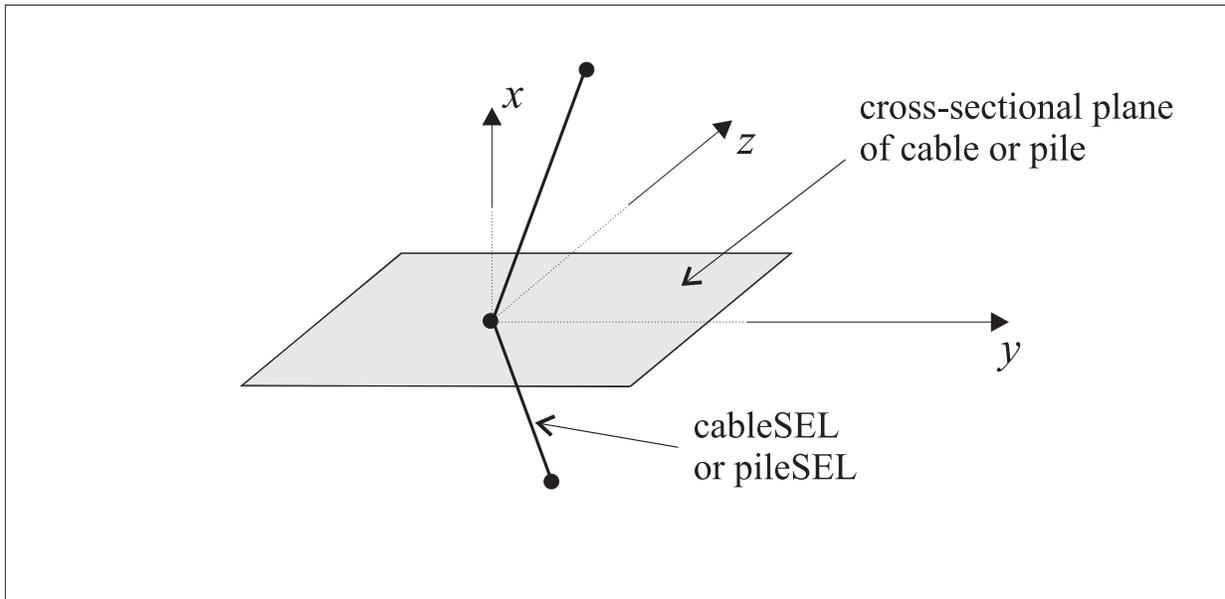
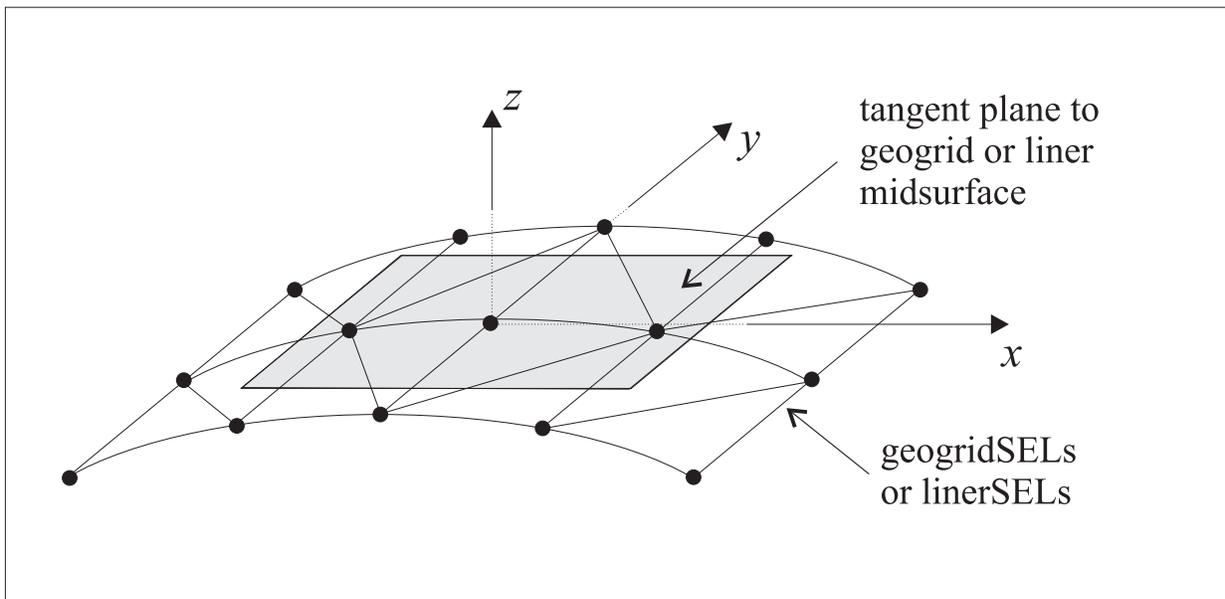

Figure 1.25 Orientation of the node-local system for a node used by cableSELS or pileSELS
Figure 1.26 Orientation of the node-local system for a node used by geogridSELS or linerSELS
The orientation of the local system is set automatically at the start of a set of cycles (or when the **CYCLE 0** command is executed) based on the type of SELs that use the node. For beams and shells, the local system is aligned with the global system. For cables and piles, the local system is oriented such that: (1) the x -axis is aligned with the average axial direction of all cableSELs or pileSELs using the node; and (2) the yz -axes are arbitrarily oriented in the cable or pile cross-sectional plane — see Figure 1.25. For geogrids and liners, the local system is oriented such that: (1) the z -axis is aligned with the average normal direction of all geogridSELs or linerSELs using the node; and (2) the xy -axes are arbitrarily oriented in the geogrid or liner tangent plane — see Figure 1.26. (If more than one type of SEL is using a node, then the orientation of the local system will correspond with the first SEL type in the following list: liner, geogrid, pile, cable, shell and beam. Thus, if a node is being used by both a geogrid and a cable, then the orientation of the local system will correspond with that of a geogrid.) When running in large-strain mode, the orientation of the local system is updated automatically, based on the motion of the SELs that use the node (unless this behavior is inhibited by the **fix lsys** keyword).